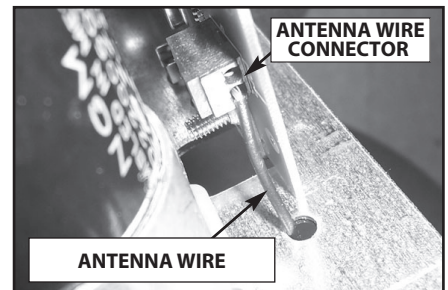

Fig. 4
8. **FEED** antenna wire through hole in front panel and point down through light cover. **FIG 4**